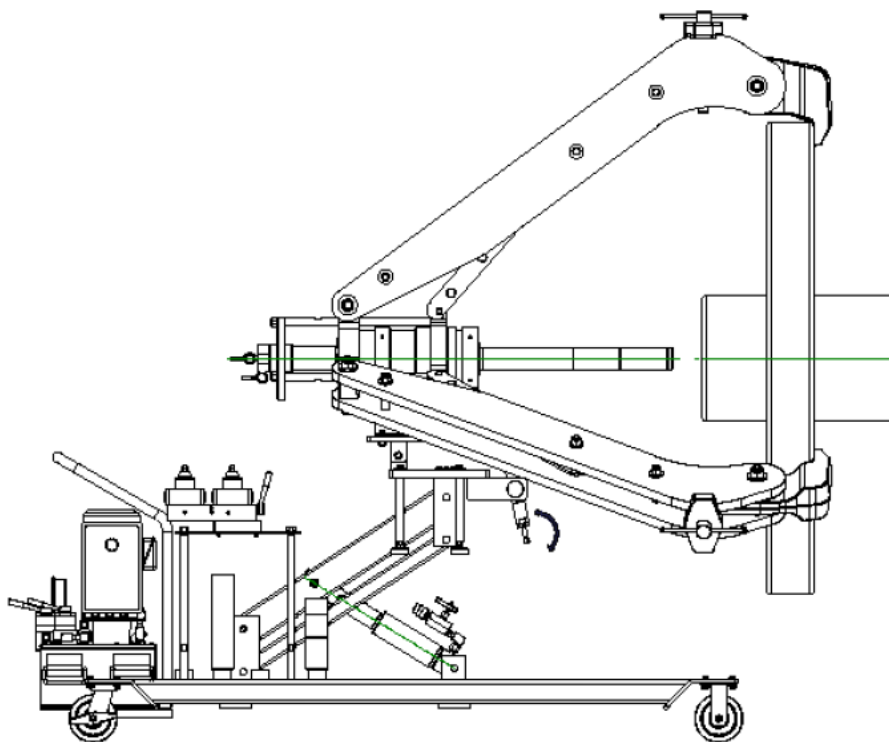

Figure 3 – Adjusting the Puller Head
- 5.3.2 Rotate the round handle under the puller in a clockwise direction when angled down and in a counterclockwise direction when angled up to ensure the puller head is on the same centreline as the object to be pulled (see Figure 3).